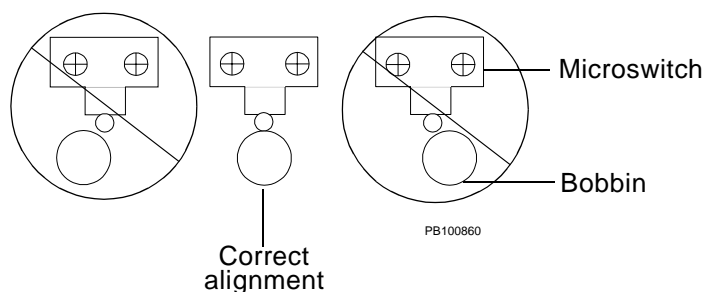

Figure 5-18 Adjusting the Load Position Microswitch (Top View)
2. Adjust the Load Switch bracket such that the switch and the bobbin are centered (Figure 5-18 on page 5-29) and close enough that the switch is activated by contact with the bobbin.